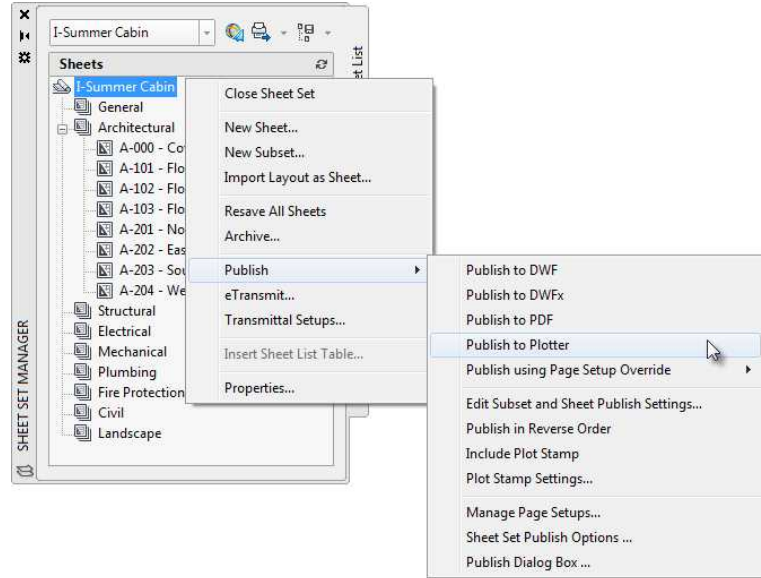

FIGURE 15.16: Publishing the entire sheet set to the default plotter
3. Right-click the Summer Cabin sheet set name at the top of the Sheet List palette, and choose Publish > Publish To Plotter from the context menu that appears (see Figure 15.16).
You don't always need to plot every drawing inside your sheet set. Let's say you want to plot only the Architectural sheets in your plan set. Rather than right-clicking the Summer Cabin sheet set name, you would right-click the Architectural subset to display the context menu shown earlier in Figure 15.16. Instead of plotting every drawing in your sheet set, Sheet Set Manager will plot only the sheets under the Architectural subset.